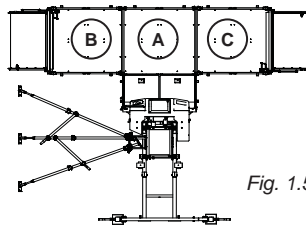

Fig. 1.5
- 6- Attach the first 60" (1,5 m) bridge assembly to the motorized unit ("A" in fig. 1.5). Refer to the *Bridges* section of the owner's manual included with the motorized unit for more information on the installation of bridges.
- 7- Attach the second bridge assembly ("B" in fig. 1.5) to the front of the first bridge assembly installed and secure in place using two outriggers and six extension plate assemblies. Refer to p. 23 of the *Bridges* section for **specific instructions** on the installation of **plate assemblies in a transport platform setup**.
- 8- Follow step 7 to install the third bridge assembly ("C" in fig. 1.5, p. 11). For specific configurations where the unit has a **bridge link in place**, the installation of the **spacer shim** is required. For instructions on the installation of the spacer shim, refer to p. 23 of the *Bridges* section.